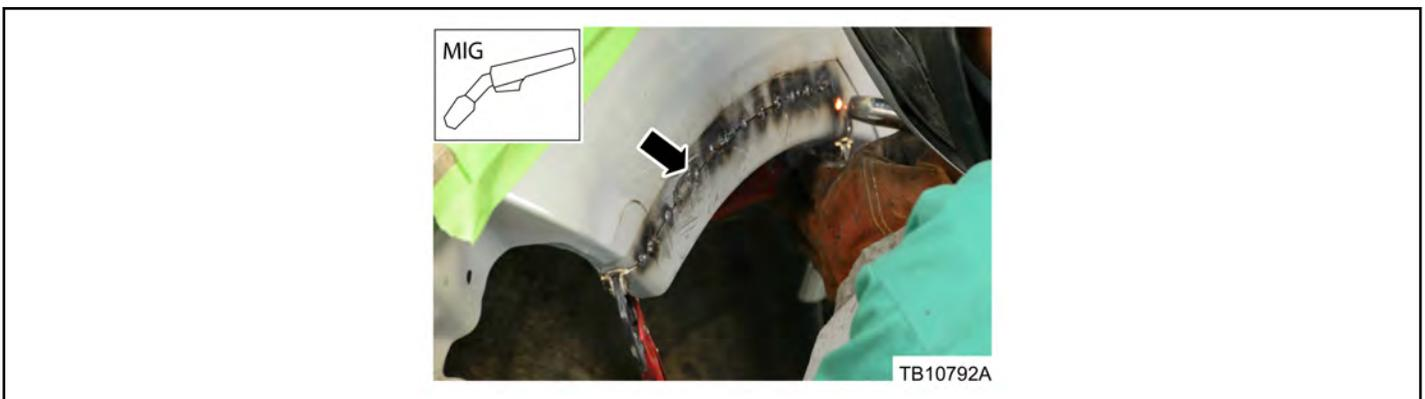

Figure 10 - Article 15-0157
25. Use a MIG welder and stitch weld the inner patch panel onto the inner quarter panel. (Figure 10)